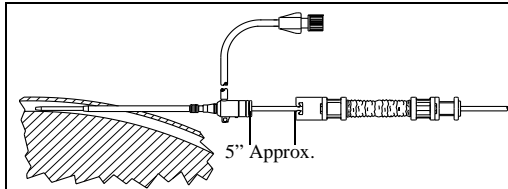

Fig. 4
21. Hold catheter in place and reposition catheter contamination shield so that distal hub is approximately five inches (12.7 cm) from hemostasis valve/side port assembly (refer to Fig. 4).